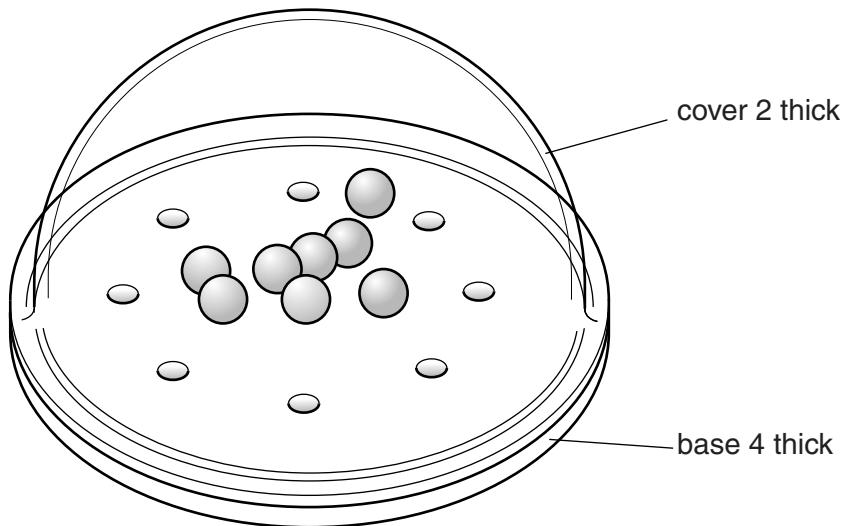

Fig. 3
- 2 Fig. 3 shows a handheld game.
- (f) Products such as the handheld game shown in Fig. 3 are manufactured in different parts of the world. This is known as 'globalisation'.